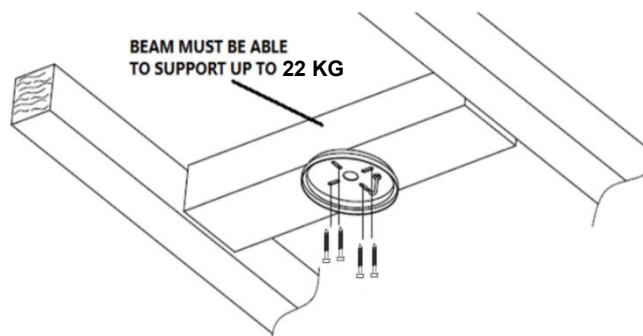

Fig. 2
- Install the hanging bracket to the ceiling joist or structure that is capable of carrying a load of at least 22kg, with 4 long screws provided. Ensure at least 30mm of the screw is threaded into the support. (Fig. 2)